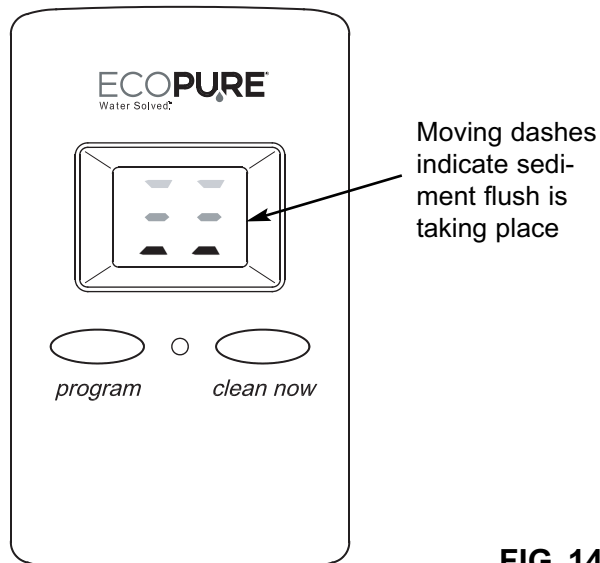

FIG. 14
1. Press the CLEAN NOW button and hold it for at least 2 seconds. When the 2-digit display changes to show moving dashes (See Figure 14), release the CLEAN NOW button.